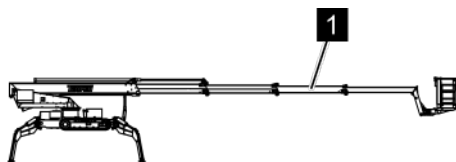

Fig. 158: Extend the telescopic arm
5. ➤ Extend the telescopic arm (Fig. 158/1) completely (☞ Chapter 6.16 'Service operation' on page 125).
7. ➤ Extend the telescopic arm (Fig. 158/1) completely (☞ Chapter 6.16 'Service operation' on page 125).